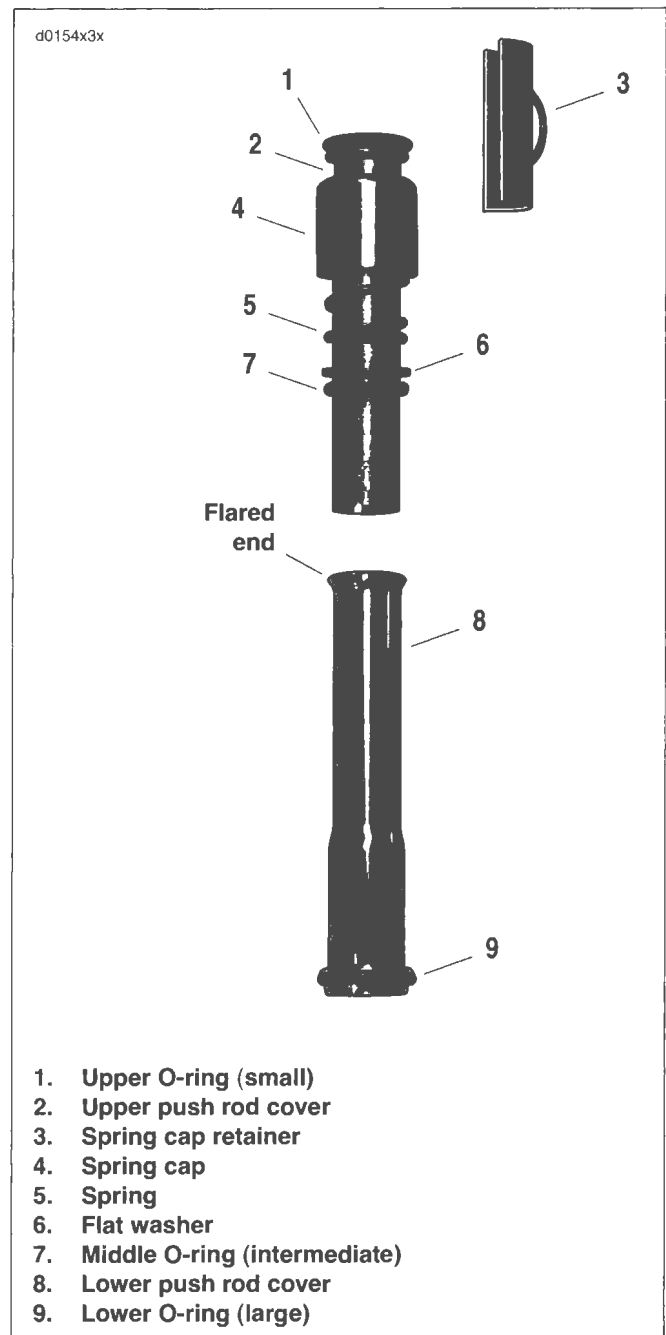

Figure 3-97. Assembled Push Rod Cover
1. See Figure 3-97. Obtain three **new** o-rings (1, 7 and 9). Apply a very thin film of clean H-D 20W50 engine oil to O-rings before installation.
2. Install **new** small O-ring (1) on seat at the top of the upper push rod cover (2).
3. Slide the spring cap (4), spring (5), flat washer (6) and **new** intermediate size O-ring (7) onto the body of the upper push rod cover. Move parts up body until spring cap (4) contacts upper O-ring seat.
4. Fit the straight end of the upper push rod cover into the flared end of the lower push rod cover (8).
5. Install **new** large O-ring (9) on seat at bottom of lower push rod cover.